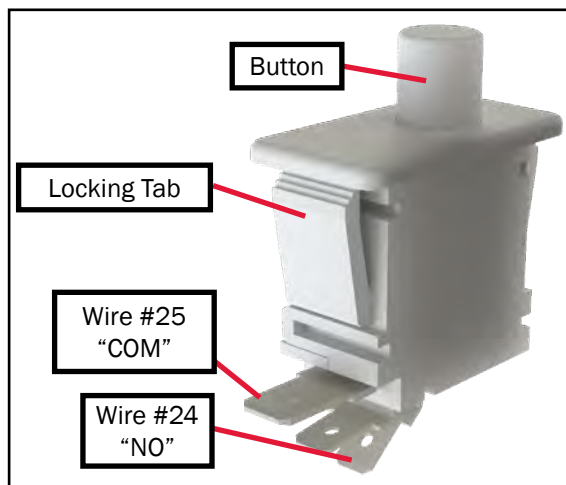

Figure 14
3. Disconnect the two yellow wires from the interlock switch noting that wire #24 is connected to the terminal labeled "NO" and wire #25 is connected to the terminal labeled "COM". Reference Figure 14.